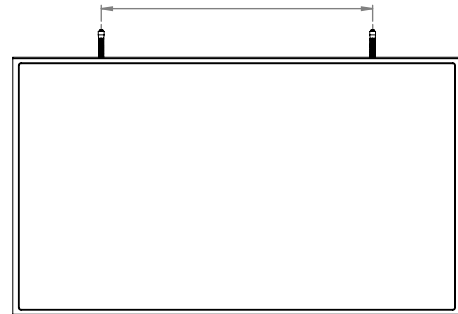

Figure 25 - Measure the distance
1. Measure the distance between the two flex arms from the center of one screw to the center of the other (*figure 25*).